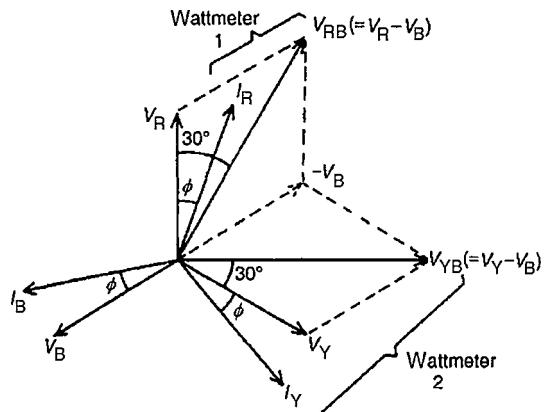

Figure 20.16
- (b) The phasor diagram for the two-wattmeter method for a balanced load having a lagging current is shown in Fig. 20.16, where  $V_{RB} = V_R - V_B$  and  $V_{YB} = V_Y - V_B$  (phasorially).